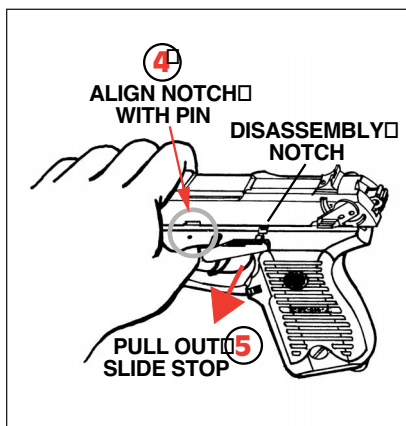
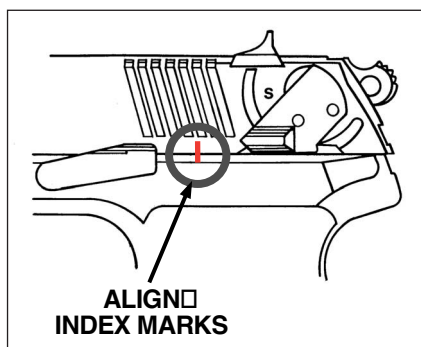

FIGURE 5A
FIGURE 5B
4. Remove fingers from ejection port. Grasp slide tightly. Now press down on slide stop and allow slide to move slowly forward until the slide stop spring retainer pin is aligned with the front edge of the slide stop notch. Press in on right-hand end of slide stop and pull slide stop out of frame to the left until it locks in its withdrawn position. (See Figure 5A, above). Do not attempt to pull it completely out of the frame. For the P94 & P944 pistols, press down on the slide stop and allow the slide to move slowly forward until the vertical index marks on the left side of the frame are aligned. (See Figure 5B, above)